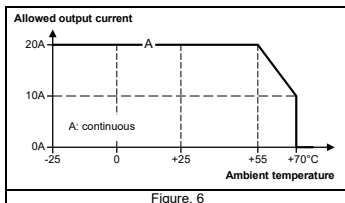

Figure 6
- The device is equipped with an over-temperature protection. In case of a high temperature, the output shuts down and starts automatically again after cooling off (Fig. 6).